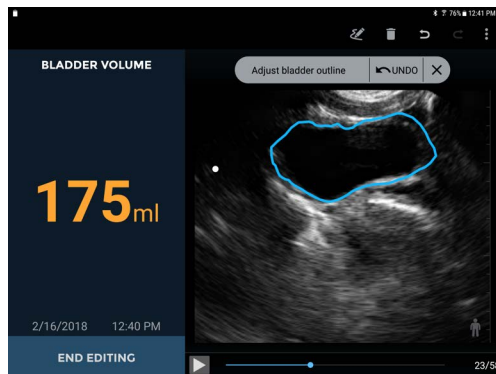

FIGURE 21. Adjusting outline
- Touch the **bladder outline** to adjust the existing outline. A drag circle will appear. Drag the outline to align with the bladder wall. The adjusted outlines change color to blue (see FIGURE 21. Adjusting outline).